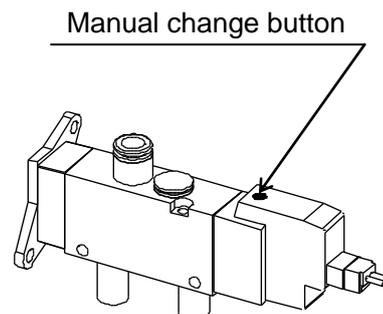

Fig.3
- 2) Since the solenoid valve is built into the motor case, press the manual change button (Fig.3) to exhaust the air pressure.